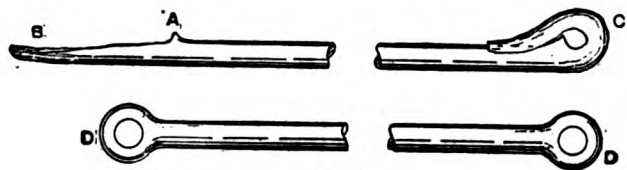

FIG. 1
**Making Railway Coupling Shackles.**—To get railway couplings to stand, the grain of the iron in the shackles must follow round the eyes. To accomplish this, the bar is first nicked with the fuller as shown at A (Fig. 1), and the end drawn out to form a scarf as at B, which is bent